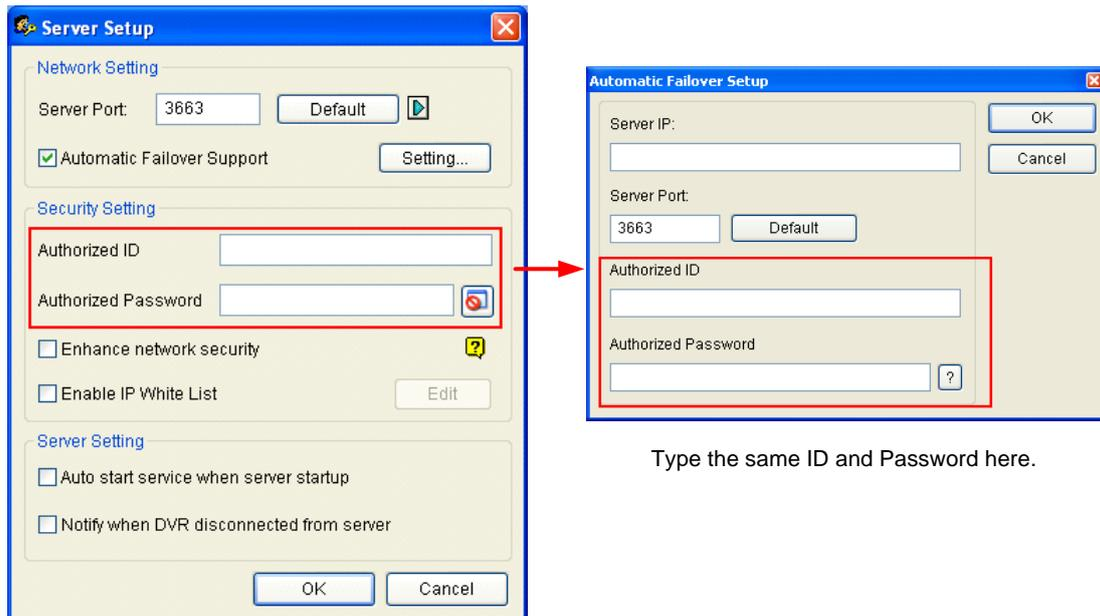

Figure 10-32
2. On the Authentication Server window, click the **Server Setup** button. The Server Setup dialog box (Figure 10-32) appears.
4. Click the **Add** button. The Automatic Failover Setup dialog box (Figure 10-32) appears.